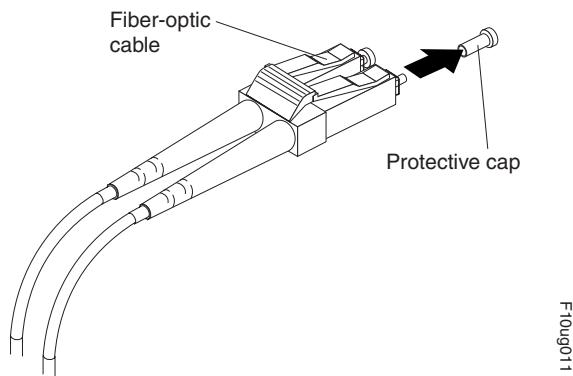

Figure 27. Removing fiber-optic cable protective caps
2. If necessary, remove the protective cap from the SFP or SFP+ module, as shown in Figure 27. Save the protective cap for future use.
3. Remove the two protective caps from one end of the LC-LC cable, as shown in Figure 27. Save the protective caps for future use.